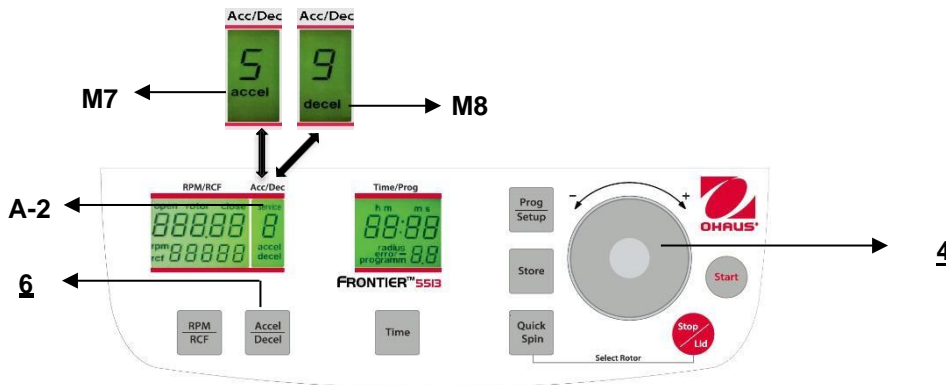

Figure. 15
The lid should only be put down slightly. A lid lock closes the lid, at the same time the word **"open"** (M2) disappears (refer to figure 15).
This function is activated through the key "**Accel/Decel**" (6) (refer to figure 15).